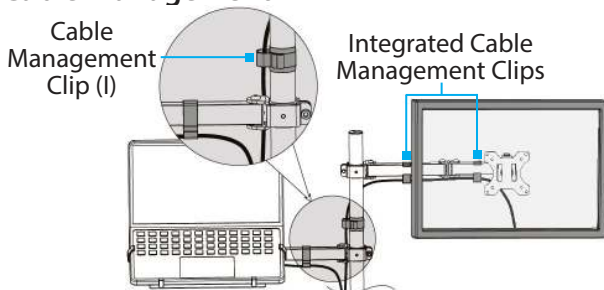

Figure 13
- Route the **Laptop/Monitor Cables** through the **Integrated Cable Management Clips**, located on the **Arms (B)**, and the **Cable Management Clip (I)**, located on the **Pole (G)**, and to their respective **Power/Video Sources**. (Figure 13)